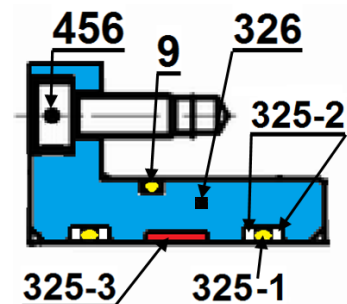

Figure 5-17 O-ring Gland of GH250S/L Suction Cover
- Set the O-rings [9, 325-1] and backup rings [325-2] on the O-ring gland [326] after applying silicone grease on each O-ring. In case of GH250S/L, set the wearing [325-3] between two O-rings [325-1]. Refer to Figure 5-17 in Section 5.5.9.